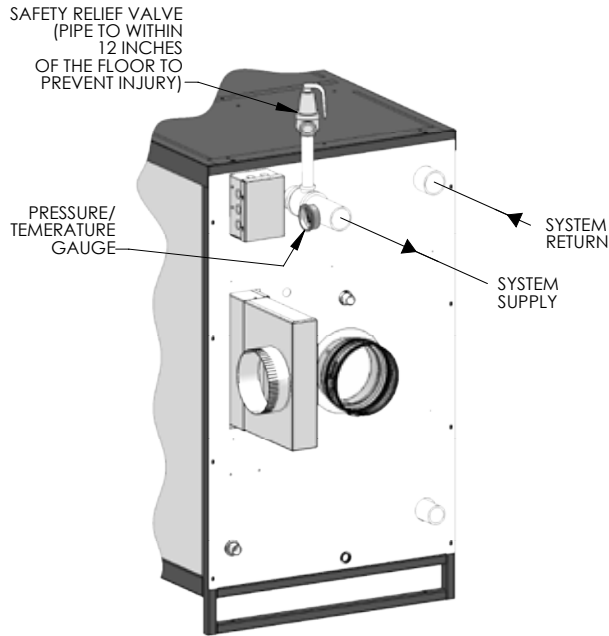

Figure 4.2: Relief Valve and Pressure/Temperature Gauge Installation
1. *Pressure/Temperature Gauge*: A combination pressure/temperature gauge is provided with each PUREFIRE® boiler to be mounted in the piping from the boiler supply to the system as shown in Figure 4.2. Most local codes require this gauge.
The valve is to be installed on the boiler supply pipe as shown in Figure 4.2. Pipe the discharge of the relief valve to within 12" of the floor and close to a floor drain.